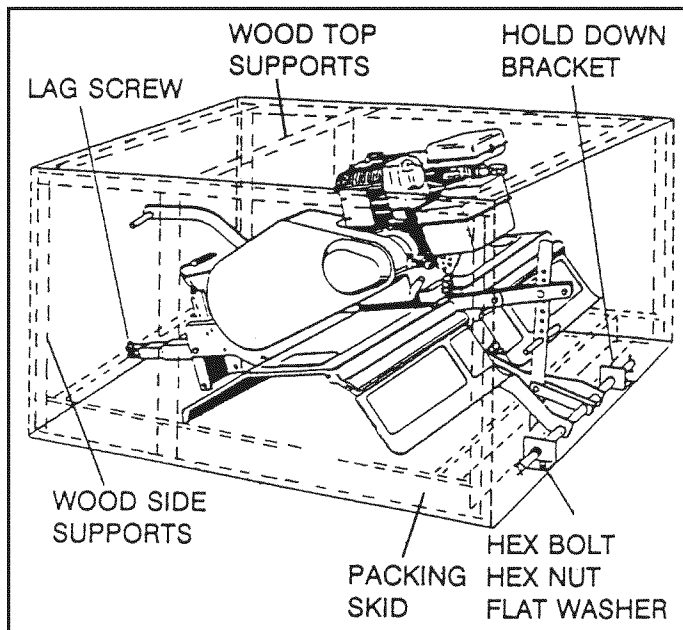

FIGURE 1
- Cut all four corners of the carton from top to bottom and lay panels flat. (See Figure 1)